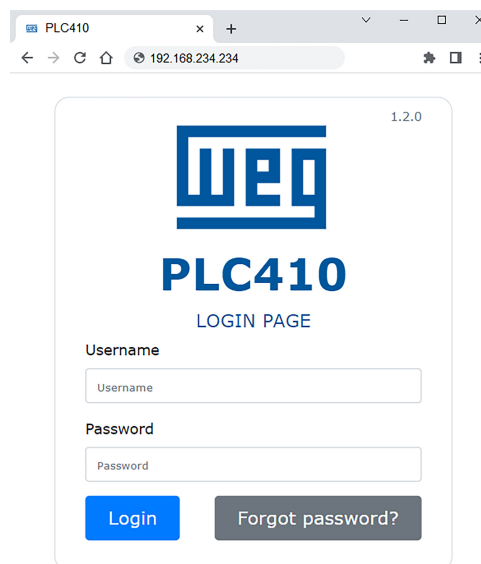

Figure 15.1: PLC410 web page
- 3) Open a web browser and enter the corresponding connection IP. The PLC410 web page will open as in Figure 15.1 on page 15-1, and it will show the product login screen. For the first access use "weg" for Username and "weg" for Password.